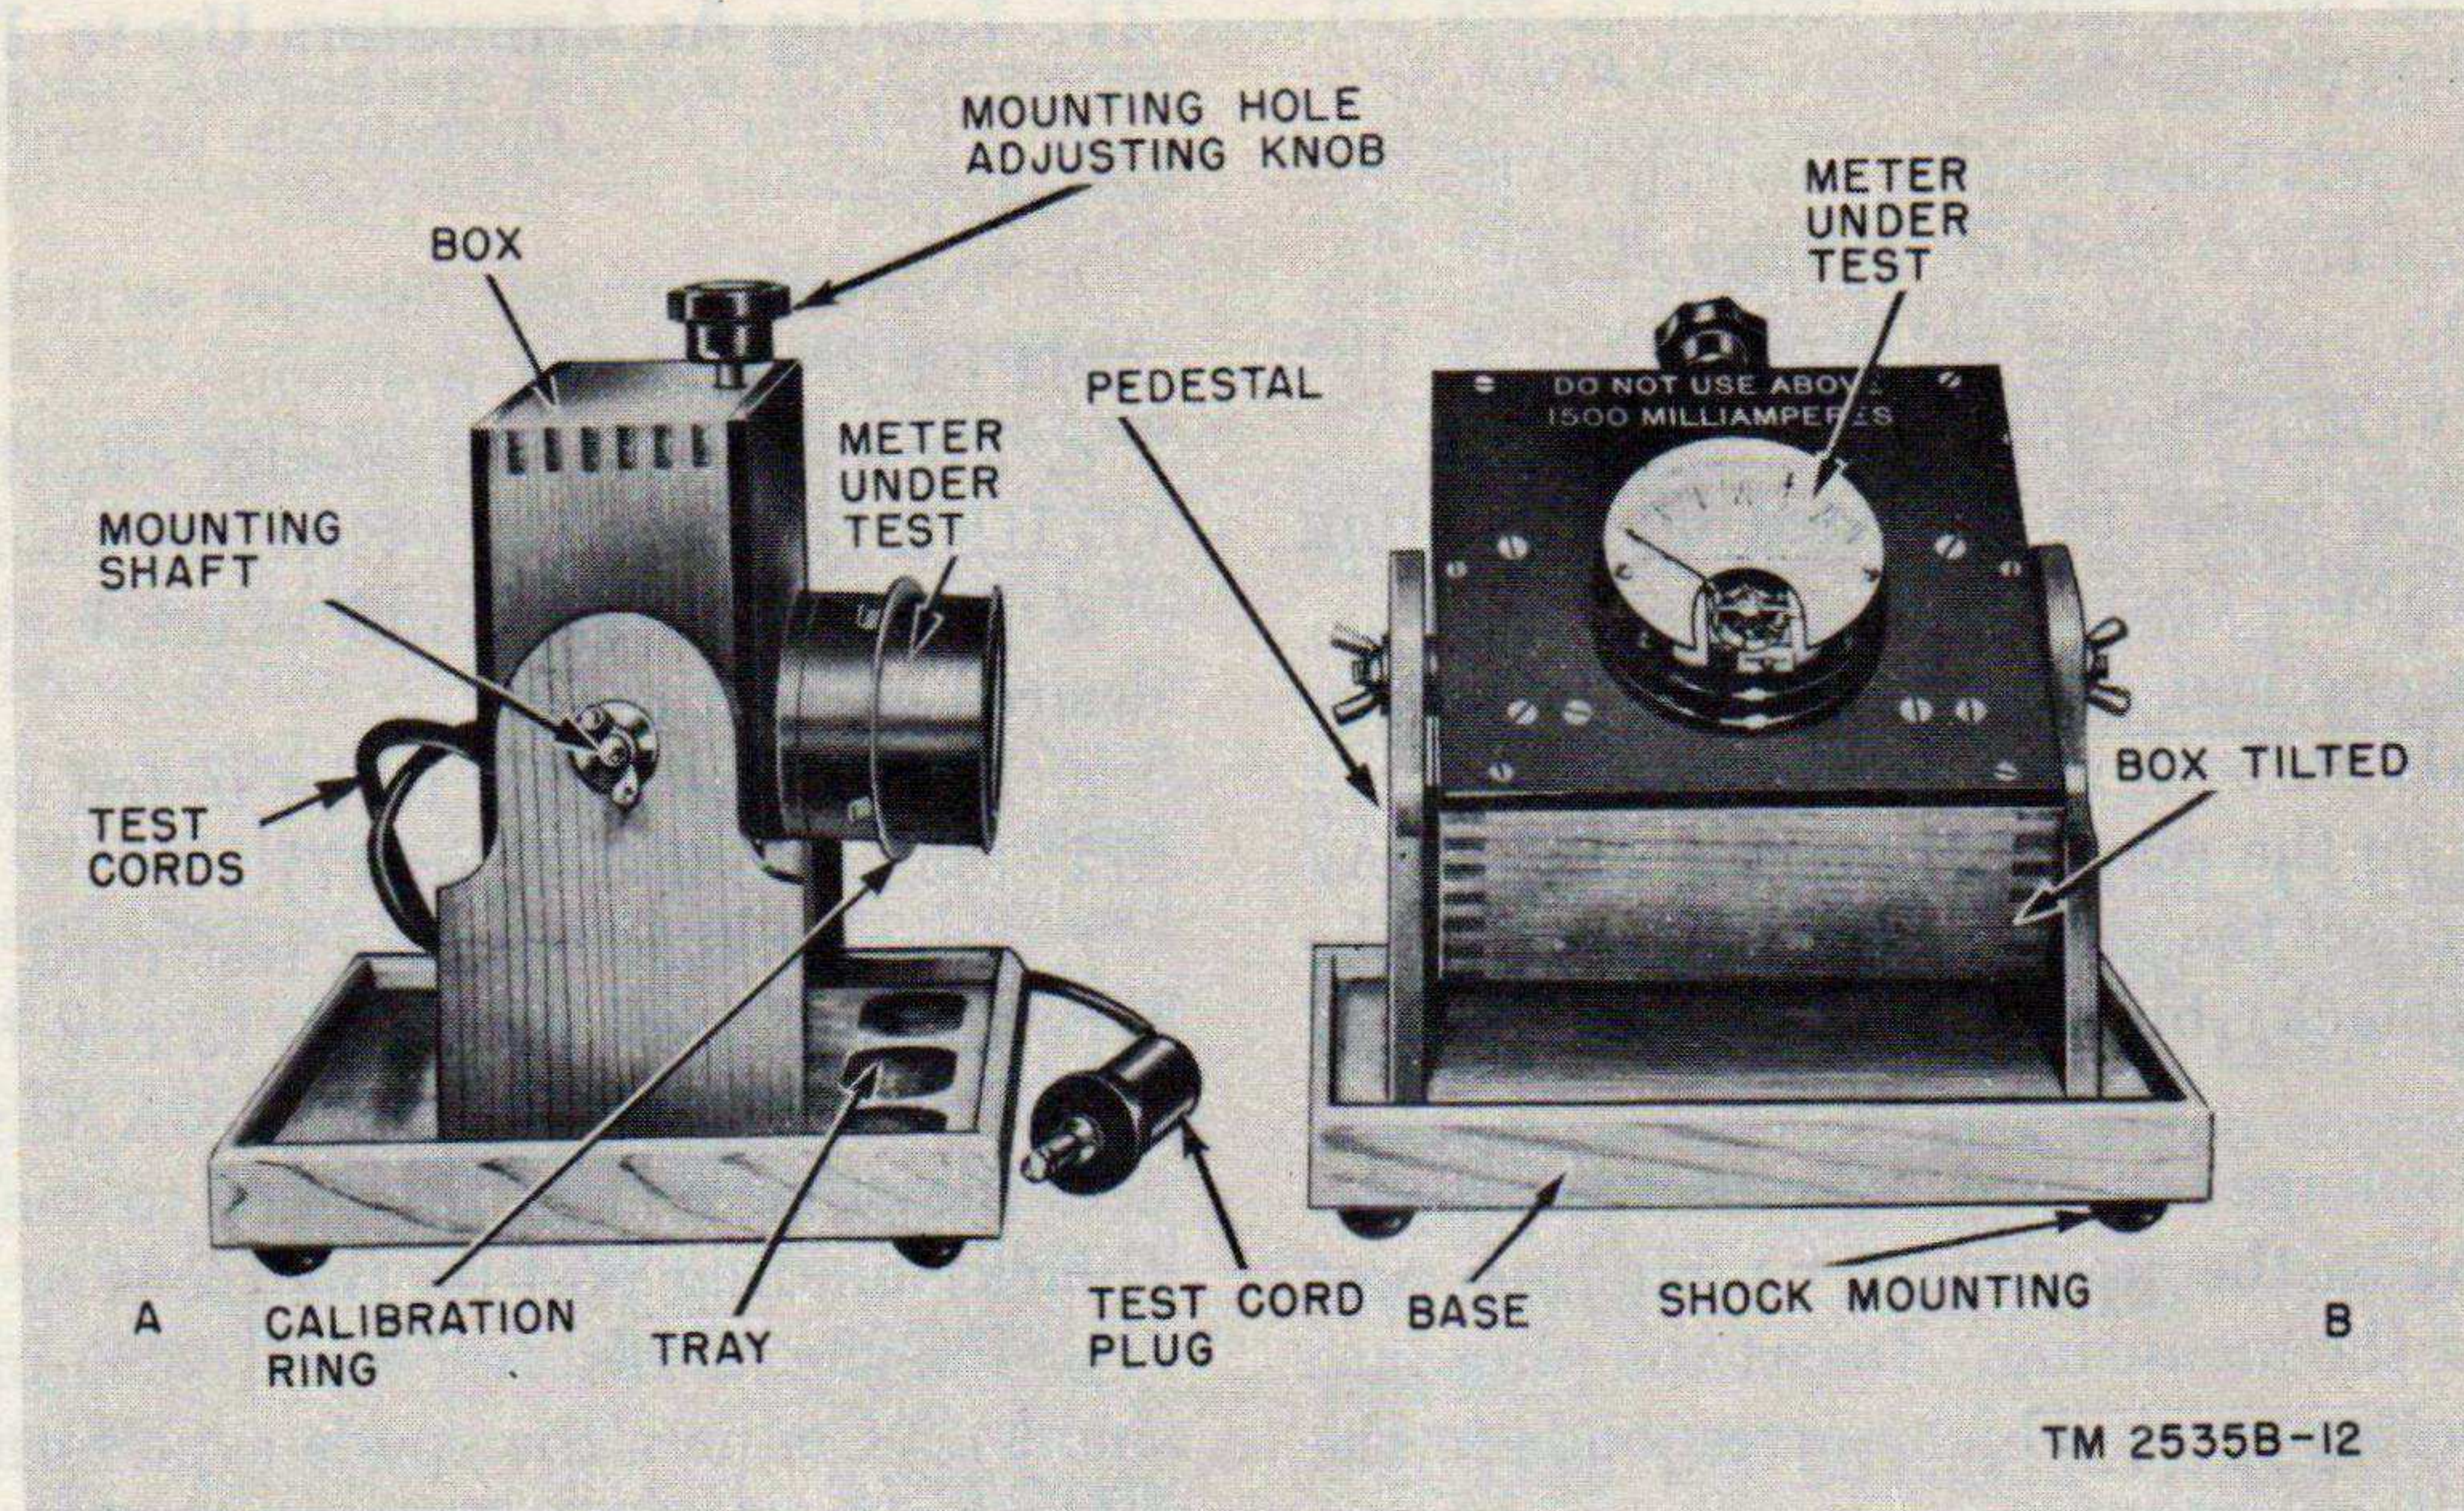

Figure 8. Meter under test mounted on Mounting MT-135A/GSM-1, side view and view with box in tilted position.
a. *Selecting Calibration Ring.* Many meters are mounted on a steel panel. To test and calibrate this type of meter, use a steel calibration ring over the meter case to simulate normal operating conditions. Select a ring of the approximate diameter of the meter to be tested, and slip the ring over the case before mounting the meter on Mounting MT-135A/GSM-1 (fig. 8). The spring-steel retainers on the calibration ring secure the ring to the meter.
- (1) Press down on the knob on top of the mounting box to open the jaws inside the box.
- (2) Place the meter terminals in the mounting holes and release the knob.
- (3) Loosen the thumbscrews at each end of the mounting shaft and tilt the box until the meter under test assumes the angle it normally occupies in the equipment from which it was taken. Tighten the thumbscrews securely. Figure 8 shows a meter mounted on Mounting MT-135A/GSM-
1; B, figure 8, shows the mounting box in a tilted position.